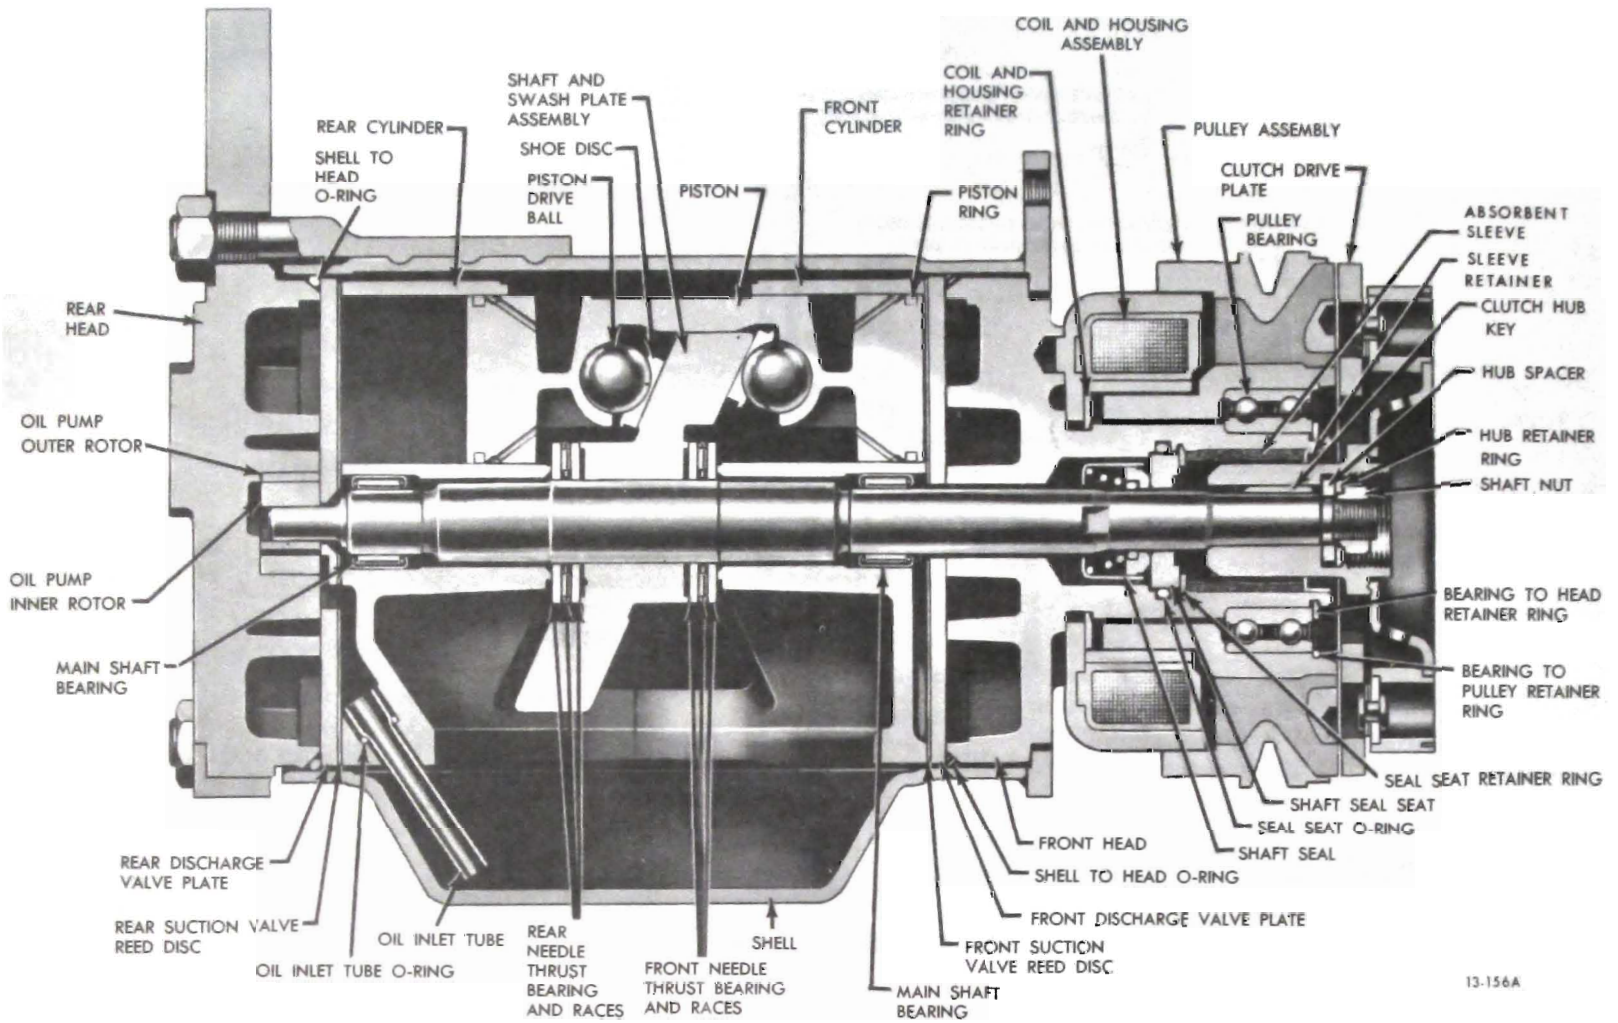

Figure 13-27 Compressor - Section View
The compressor is of basic double action piston design. Three horizontal double acting pistons make up a six cylinder compressor (see Figure 13-27). The pistons operate in 1-1/2 inch bore and have a 1-1/8 inch stroke. A swash plate keyed to the shaft drives the pistons. The shaft is belt driven through a magnetic clutch and pulley arrangement. An oil pump mounted at the rear of the compressor picks up oil from the bottom of the compressor and lubricates the bearings and other internal parts of the compressor.
4. Shaft and Swash Plate Assembly - The shaft and swash plate assembly (see Figure 13-27) consists of an elliptical plate positioned obliquely to the shaft. As the plate and shaft rotate, the surface of the plate moves to and fro lengthwise relative to the centerline of the shaft. This reciprocating motion is transmitted to the pistons which contact the surface of